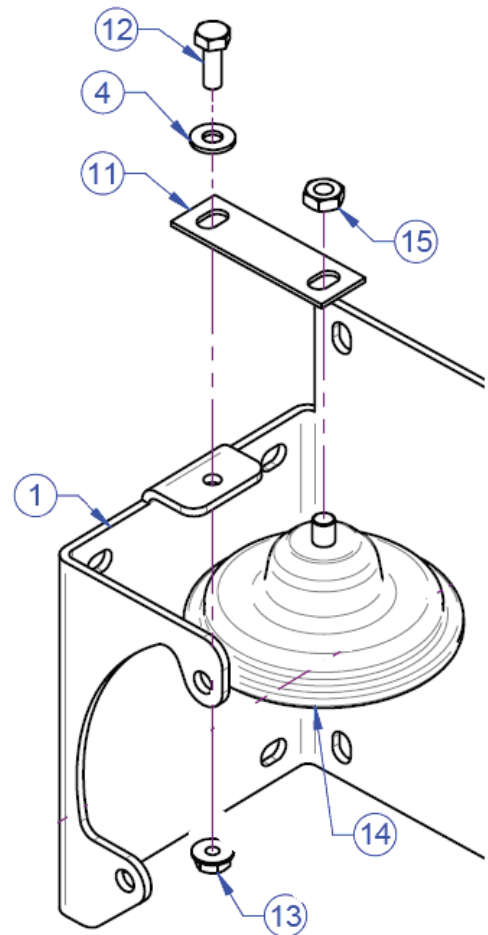

Figure 8-17. Horn Mounting
3. Remove horn from mounting bracket (Figure 8-17).